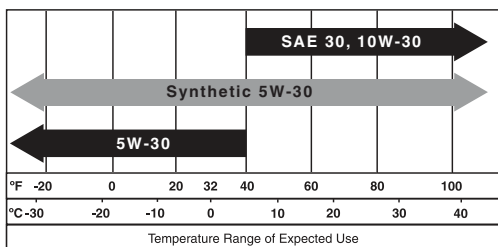

FIGURE 22: Recommended Oil Viscosity
SAE 10W-30 is recommended for general temperature use. Refer to Figure 22 for information on other viscosities that may be used. Other viscosities shown in chart may be used when average temperature in your area is within indicated range.
- ☐ Unused engine oil (SAE type indicated in Figure 22)
13. Pour new (unused) engine oil into oil fill hole using funnel. (See Figure 22 for recommended oil type). Do not overfill.